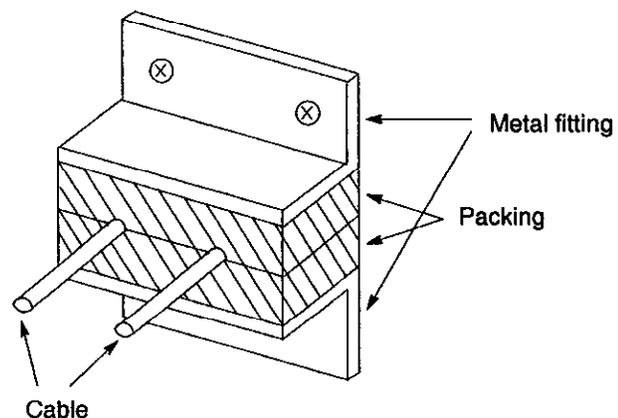

Fig. 1.8 Cable Inlet
- Seal the cable inlet with packing material. (Refer to Fig. 1.8.)